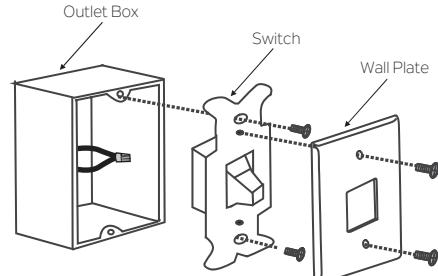

Fig. 27
Step 1. Remove the existing wall plate and the old switch from the wall outlet box. Wire nut the BLACK leads (hot) together and push back inside the outlet box. (**Fig.27**)